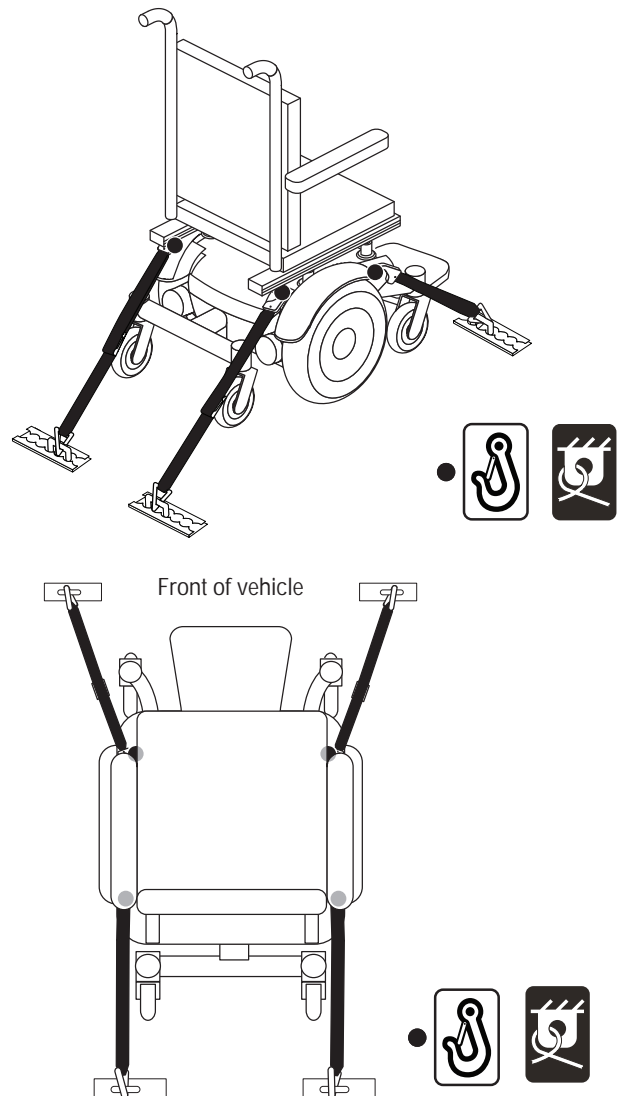

Figure 6. Unoccupied Transit System Securement Points
- Position the anchor points for the rear tie-down straps directly behind the rear securement points on the power chair. The front tie-down straps should be anchored to floor points that are spaced wider than the power chair to provide increased stability. **See figure 6.**